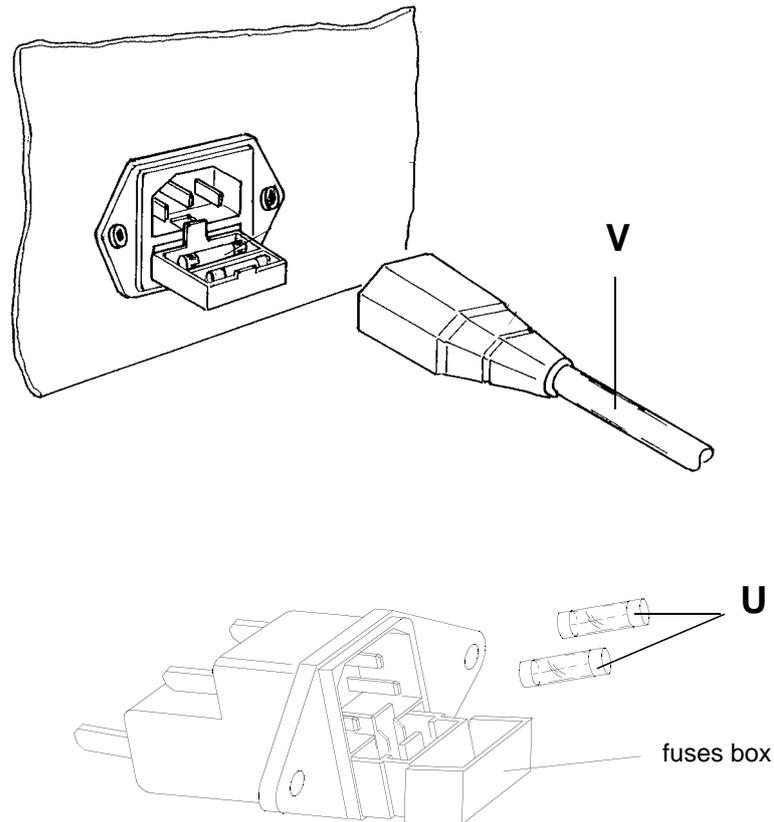

Fig. 16
- 3) Remove the fuses box placed below the key-cutting machine socket (fig. 16).
- 4) Replace the fuses (U)(fig. 16).